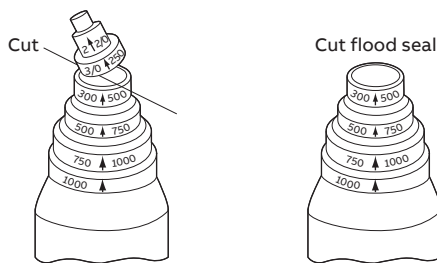

Figure 5
2. Cut flood seal at the tip of the arrow, leaving correct cable size showing on cut flood seal (Figure 5).